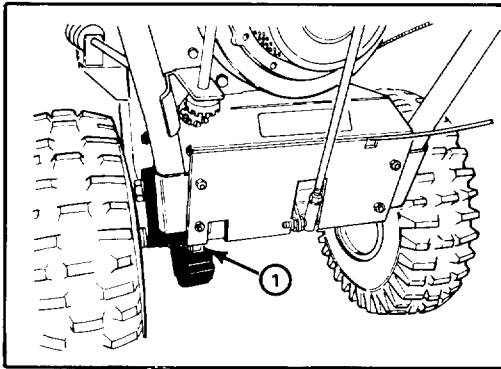

Figure 19
1. Annually, lubricate drive chain with chain lubricant (Fig. 19). Wipe up any excess oil.